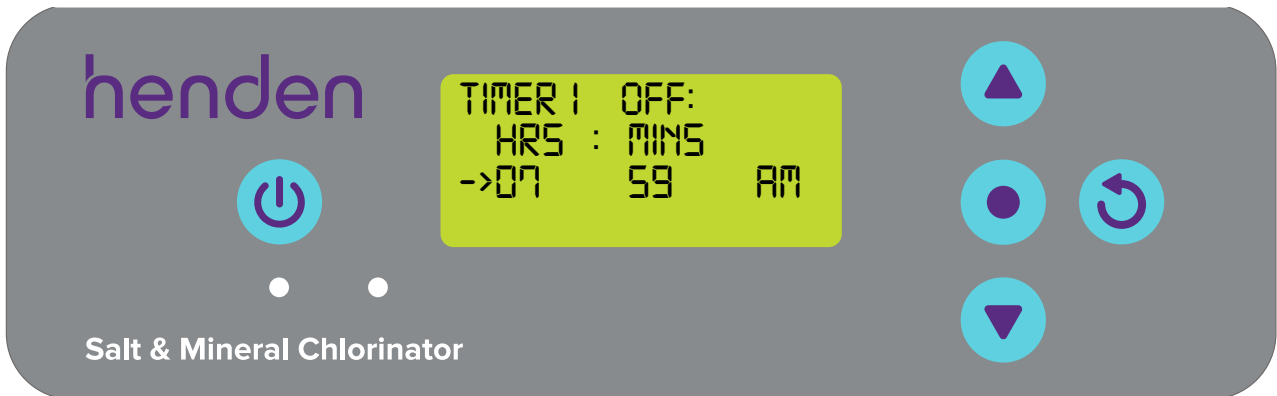

Figure 9.19
- Next, you will be asked to select a TIMER 1 OFF time (refer Figure 9.19). Adjust this time setting as before.